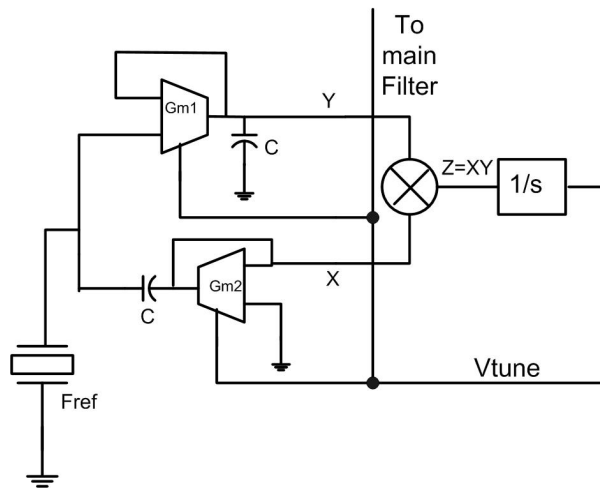

Fig. 2: Integrated Filter Tuning Circuit
2. The circuit in figure 2 is used in integrated continuous-time filters to tune the center frequency of the filter to a specified value, made precise by the presence of the crystal oscillator OSC1.  $G_{m1}$  and  $G_{m2}$  are replicas of the filter transconductors, and are controlled by the same tuning voltage as the main transconductors. Explain qualitatively (although in a NEAT way) the circuit operation and highlight the phase of the signals at nodes X and Y in the loop relative to the reference when the loop converged.